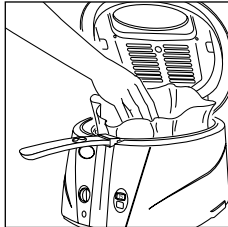

fig. 11
7. Put the basket back in the high position and place an oil filter into the bottom of the basket (fig. 11). You can obtain the filters from your retailer or one of our service centres.